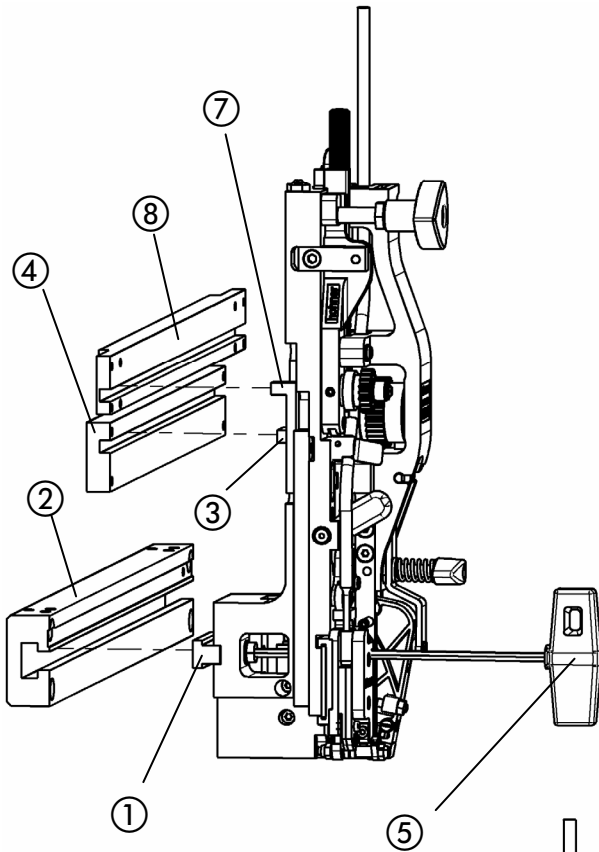
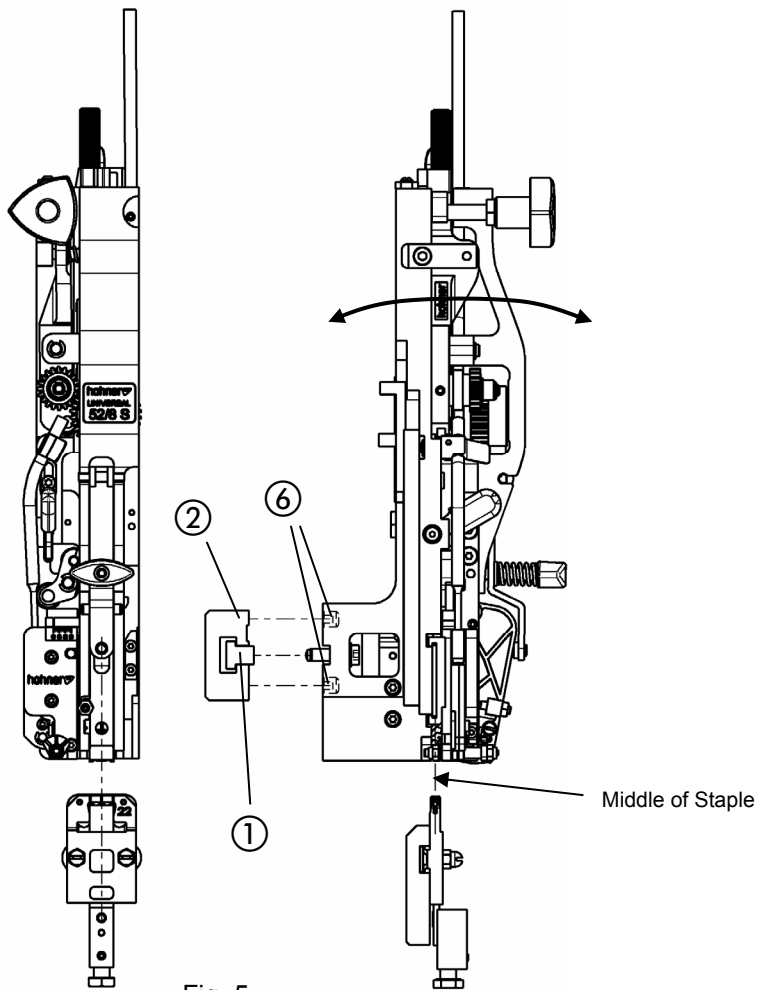

Fig. 4
Fig. 5
- Fig. 4 -
- Unscrew tenon block from the stitching head with Allen key SW4 ⑤.
- Introduce tenon block laterally into the stitching head mounting ②.
- Insert stitching head in the stitching head holder so that the driver lug ③ can be inserted in the lifting bar ④ and the lug of the adjustment rods ⑦ in the adjustment bar ⑧ (⑦ and ⑧ only for machines with central adjustment) and that the tenon block fits into the stitching head.
- Fix the stitching head by tightening the tenon block in the stitching head mounting using the Allen key ⑤.
- Fig. 4, Fig. 5 -
- Loosen the tenon block ① with the Allen key ⑤.
- Fix the tenon block in the stitching head mounting ② with the Allen key.
- Fig. 5 -